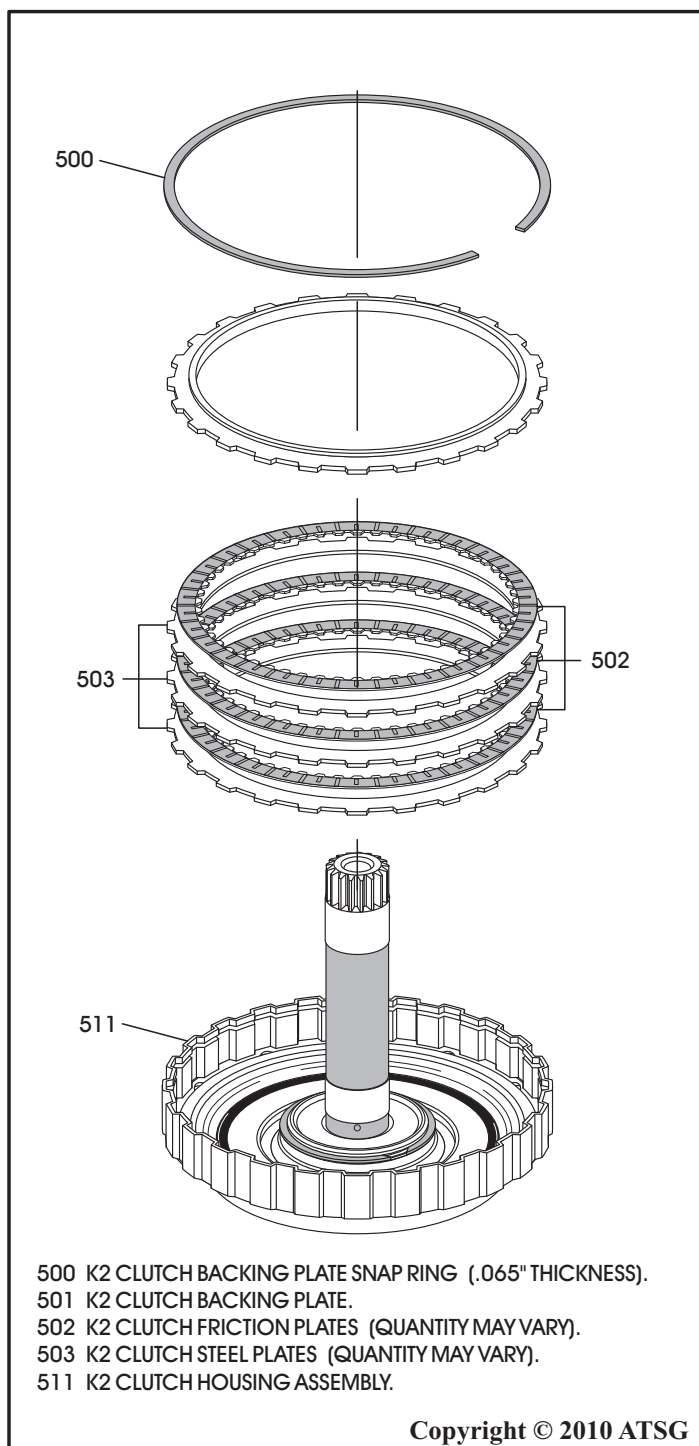

Figure 124
11. Install the K2 clutch pack beginning with a steel plate and alternating with frictions, as shown in Figure 124, until you have installed the proper quantity, as the quantity may vary.
12. Install the K2 clutch backing plate on top of the last friction, as shown in Figure 124, with step side facing up.
13. Install the K2 clutch backing plate snap ring, as shown in Figure 124.